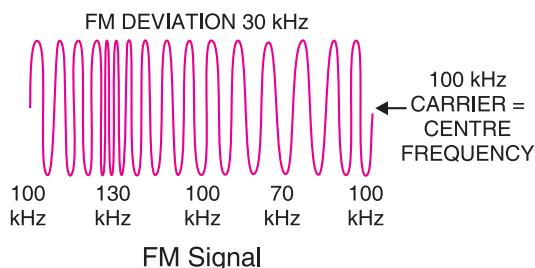

Fig. 16.13
Illustration. The process of frequency modulation (FM) can be made more illustrative if we consider numerical values. Fig. 16.13 shows the FM signal having carrier frequency $f_c = 100 \text{ kHz}$. Note that FM signal has constant amplitude but varying frequencies above and below the carrier frequency of 100 kHz ($= f_c$). For this reason, f_c ($= 100 \text{ kHz}$) is called **centre frequency**. The changes in the carrier frequency are produced by the audio-modulating signal. The amount of change in frequency from f_c ($= 100 \text{ kHz}$) or **frequency deviation** depends upon the amplitude of the audio-modulating signal. The frequency deviation increases with the increase in the modulating signal and vice-versa. Thus the peak audio voltage will produce maximum frequency deviation. Referring to Fig. 16.13, the centre frequency is 100 kHz and the maximum frequency deviation is 30 kHz. The following points about frequency modulation (FM) may be noted carefully :